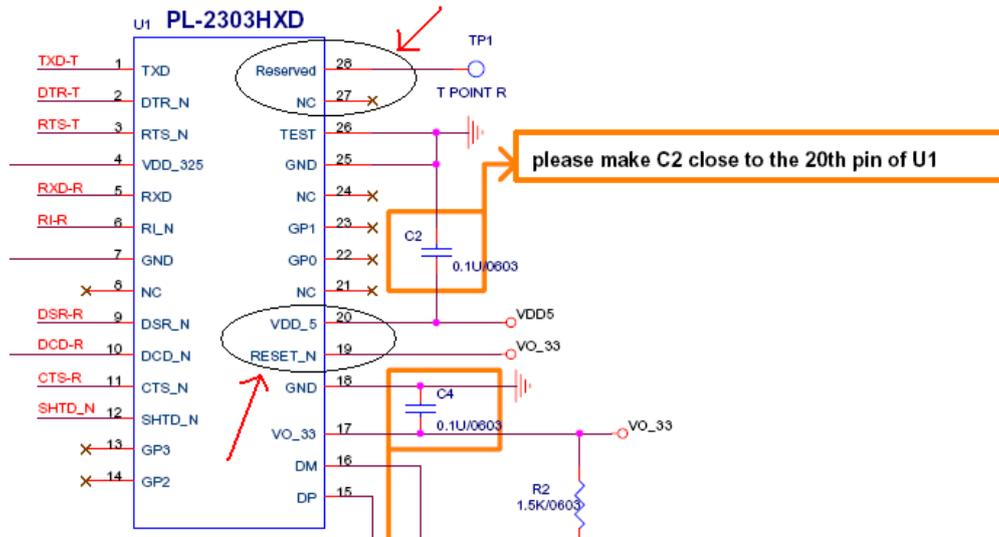

Figure-1: PL-2303HXD Schematic Diagram Reference
- If the PCB layout was designed with Pin 19 as NC, you can short Pin 19 (RESET_N) to Pin 20 (VDD_5). Pin 19 is 5V tolerant. Otherwise, the PCB needs to be re-layout. See Figure-1 below.